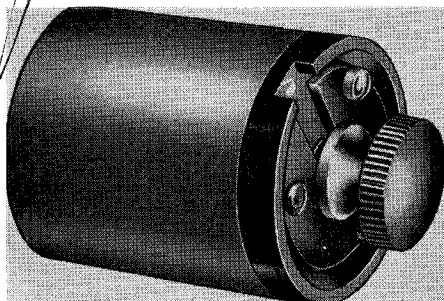

Fig. 1. Datum selector resistor unit
1. Datum selector resistors (fig. 1) are plug-in units designed to fit to Ultra jet-pipe temperature control amplifiers. When fitted to an amplifier the unit specifies the datum temperatures at which the amplifier controls. Up to three datum temperatures may be provided for, the selection of datums usually being made by means of remotely controlled relays. An amplifier may have several datum selector units with which it can be used, thus enabling the control range of the amplifier to be extended to suit a particular engine installation.